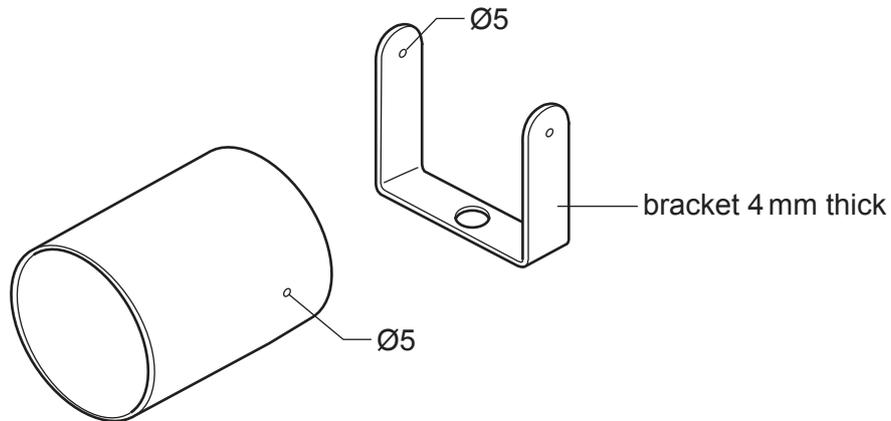

Fig. 13.5
- (e) Fig. 13.5 shows details of the lampshade and the bracket. The lampshade will be joined to the bracket by means of fittings that will go through the $\text{Ø}5$ holes drilled in the lampshade and bracket.